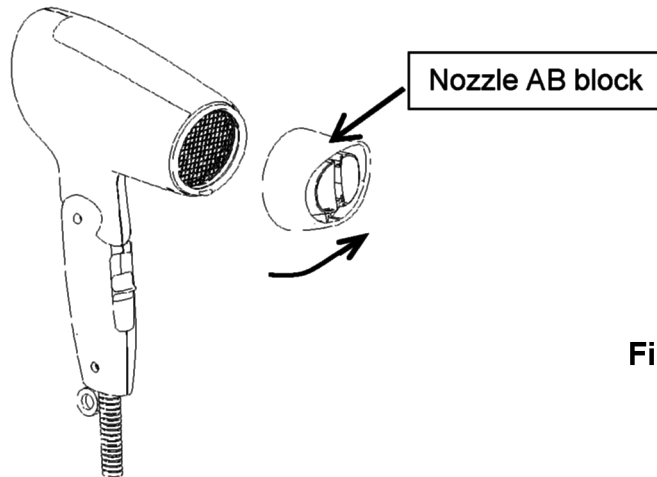

Figure 4
1. Take off Nozzle AB Block as same direction in figure 4.